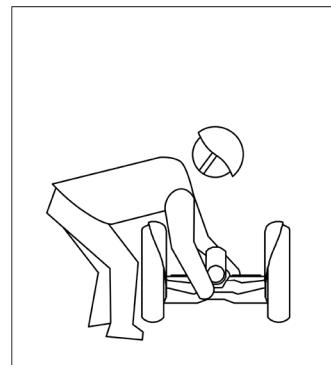

Figure 43: Lifting Alone
1. Make sure the hex wrench slides all the way to the bottom of the hex socket (see **Figure 43**).